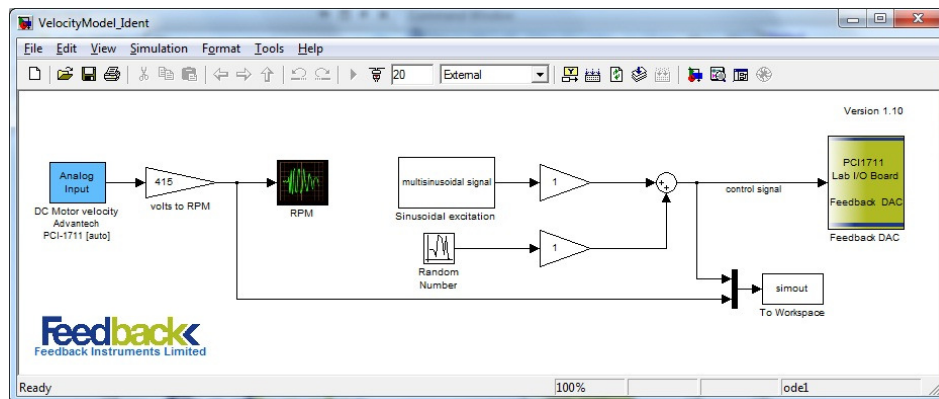

Figure 13 Modular Servo identification Simulink model
- The excitation signals are already prepared. You may need to reduce the excitation signal amplitude for some devices if such an opportunity has been provided. As an example the Modular Servo model identification model is presented (Figure 13)